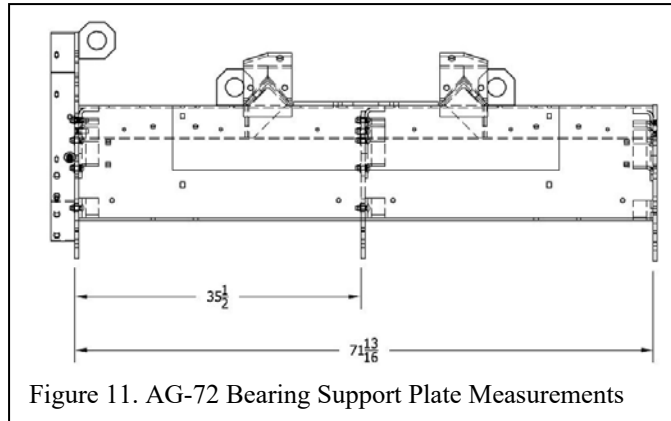

Figure 11. AG-72 Bearing Support Plate Measurements
5. **IMPORTANT:** It is important to check measurements between bearing support plates before re-installing repaired rotor shaft. Using Figures 11 through 13, measure machine and contact First Products sales representative if measurements exceed what is shown below (tolerance $\pm 1/32$ "). Proper shims will be supplied by First Products to allow for proper bearing alignment and shaft installation.